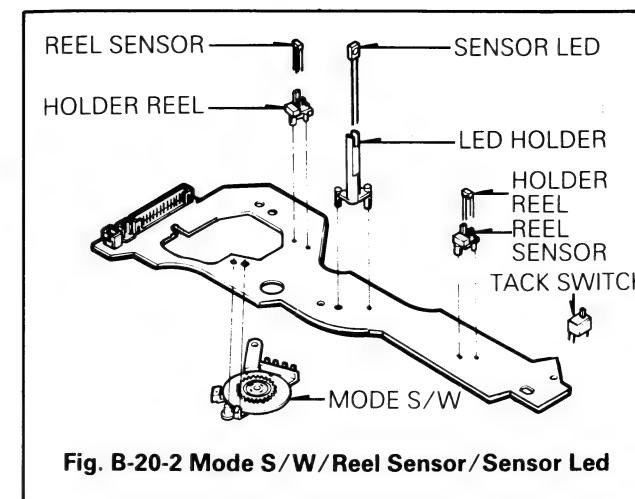

Fig. B-20-2 Mode S/W/Reel Sensor/Sensor Led
- 2) Remove two screws(A),(B) and then remove the Junction P.C.B Assembly.
- 4) Remove the Reel Sensors, Sensor LEDs and each holder from the Junction P.C.B(Fig. B-20-2).